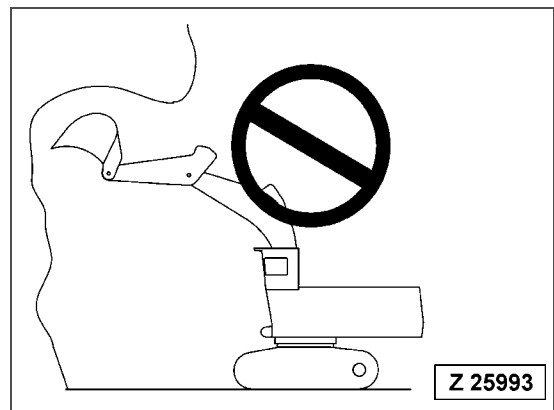

Fig. 2-30
- Never dig the work face under an overhang. There is a hazard that rocks may fall or that the overhang may collapse and fall on top of the machine (Fig. 2-30).